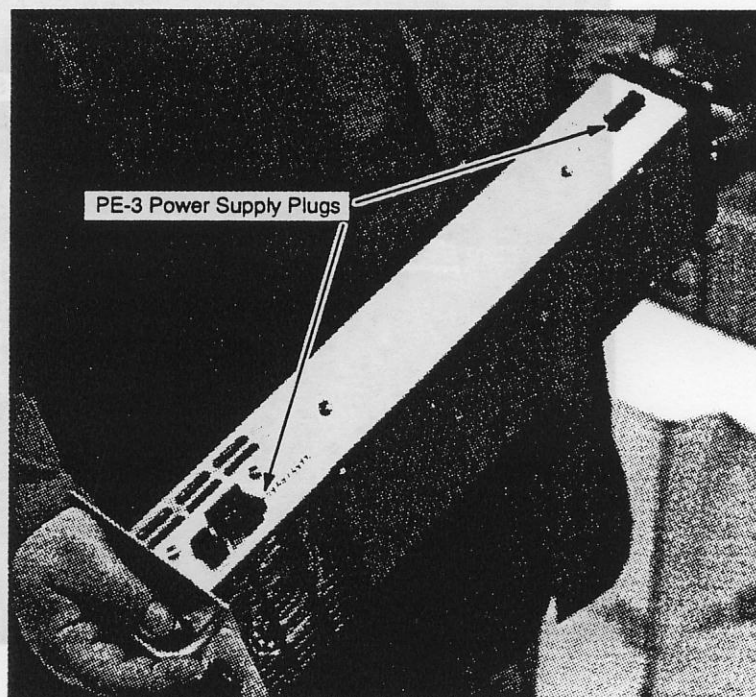

Figure 7-42. PE-3 Power Supply Plugs
8. Remove the two front plugs and one rear plug from the power-supply assembly. Refer to Figure 7-42.